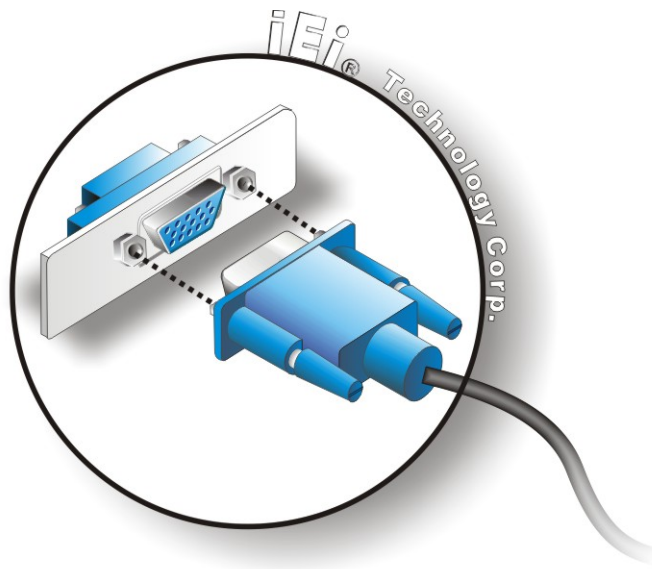

Figure 3-17: VGA Connector
- Step 3:** **Insert the VGA connector** Once the connectors are properly aligned with the insert the male connector from the VGA screen into the female connector on the TANK-GM45. See **Figure 3-17**.